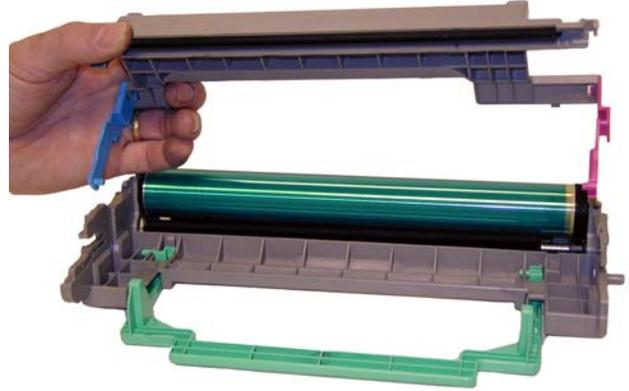

Figure 29
26) Remove the bottom cover. See **Figure 29**